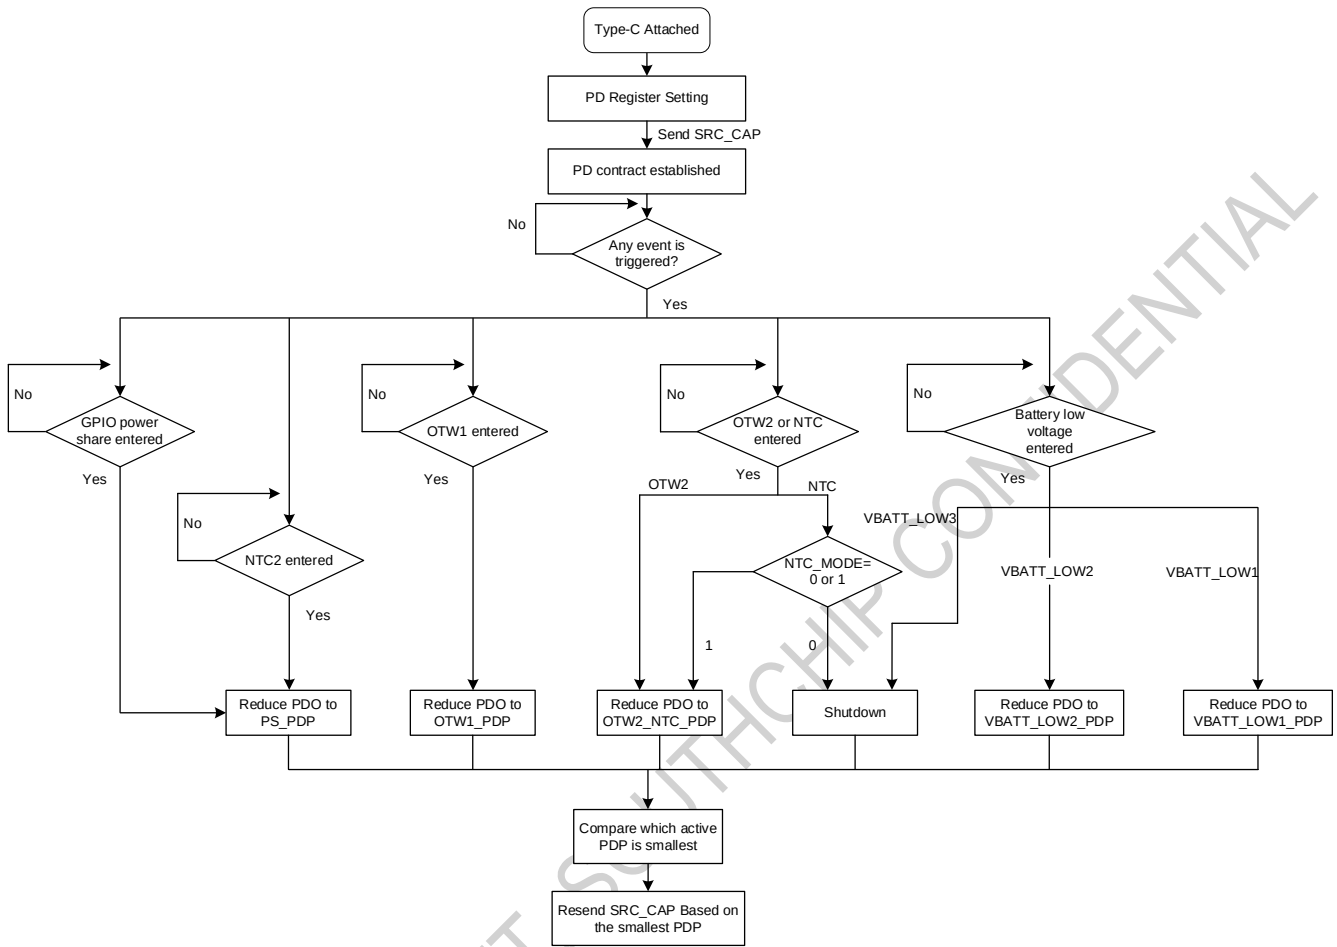

Figure 10-6 PDP State Machine
Figure 10-6 shows the PDP state machine.
(1) See figure10-6 for the GPIO2 power share PDP management.  $V_{BUS}$  exceeds 11.2V to trigger power share function (GPIO2 input voltage > 1.87V).
(2) TVS diodes are required to pass the  $\pm 8\text{kV}$  contact and  $\pm 15\text{kV}$  air discharge per IEC ESD specifications.